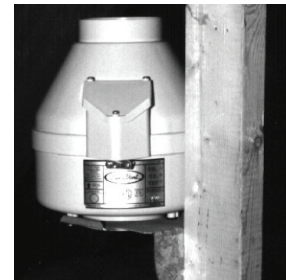

Fig. 5
Step 2: Select location for fan mounting. A location 2/3 along the ducting, a minimum of 10 feet away from the inlet vent to the fan or the Y/T of a multi-intake system- will provide the quietest operation. Fan should be mounted vertically to prevent moisture from accumulating in the fan housing. Attach bracket to mounting structure with the 1 1/4" screws provided (Fig. 5).